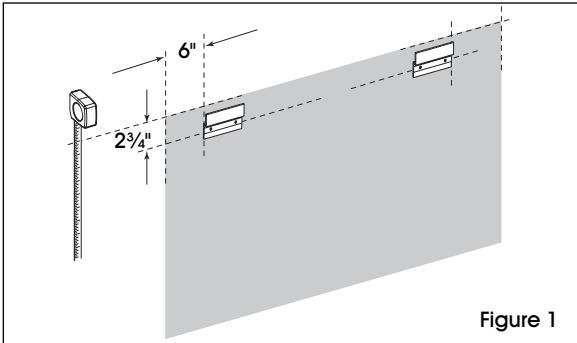

Figure 1
1. Determine board location. Position top hanging brackets 6" from outside edge of board with bracket holes 2 3/4" from top of board. (See Figure 1)